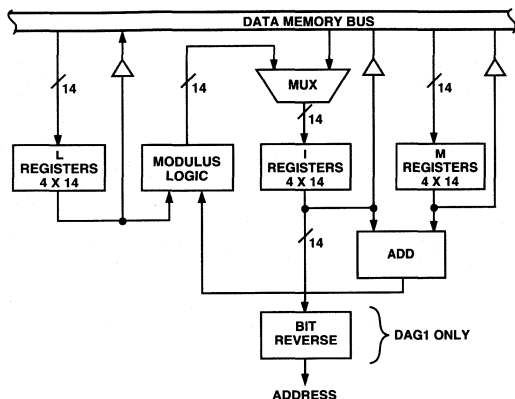
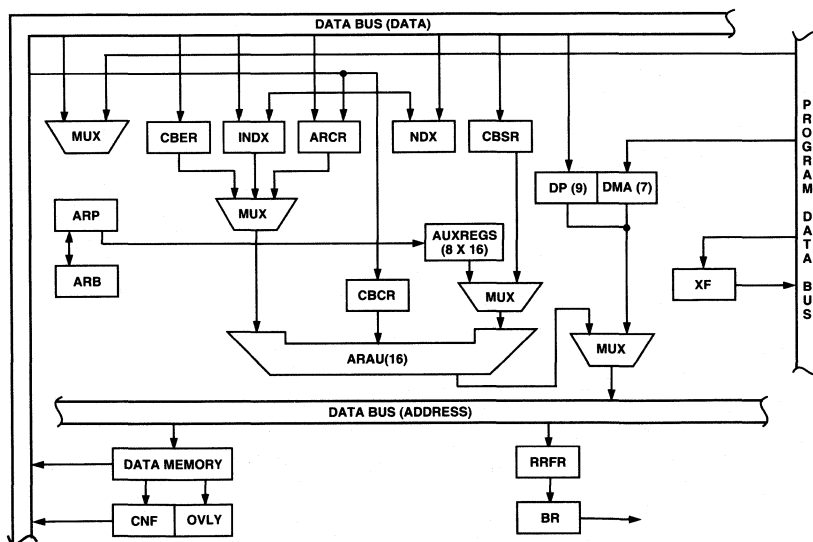

Figure 3. Block Diagram of ADSP-2115 Data Address Generators
Figure 4. Block Diagram of TMS320C50 Address Generation Circuit
Figure 3 shows the address generation circuitry of the ADSP-2115 while Figure 4 shows that of the TMS320C50. The addressing capabilities of the TMS320C50 are basically the same as those of the TMS320C25 with the addition of some circular buffering logic. Flexibility is still limited since there is only one modify register (AR0) and only two simultaneous circular buffers are supported compared to the eight modify registers and eight simultaneous circular buffers of the ADSP-2115. Also, due to instruction pipelining of the TMS320C50, the auxiliary registers cannot be used for as many as two cycles after certain register load instructions. These addressing
With indirect addressing, the address in an I register drives either the data or program memory address bus. While the memory is being accessed, the address is simultaneously updated with the contents of any of the modify (M) registers, as shown in Figure 3. The specific pairing of I and M registers is up to the programmer. For example, I0 and M3 could be specified in the instruction as in